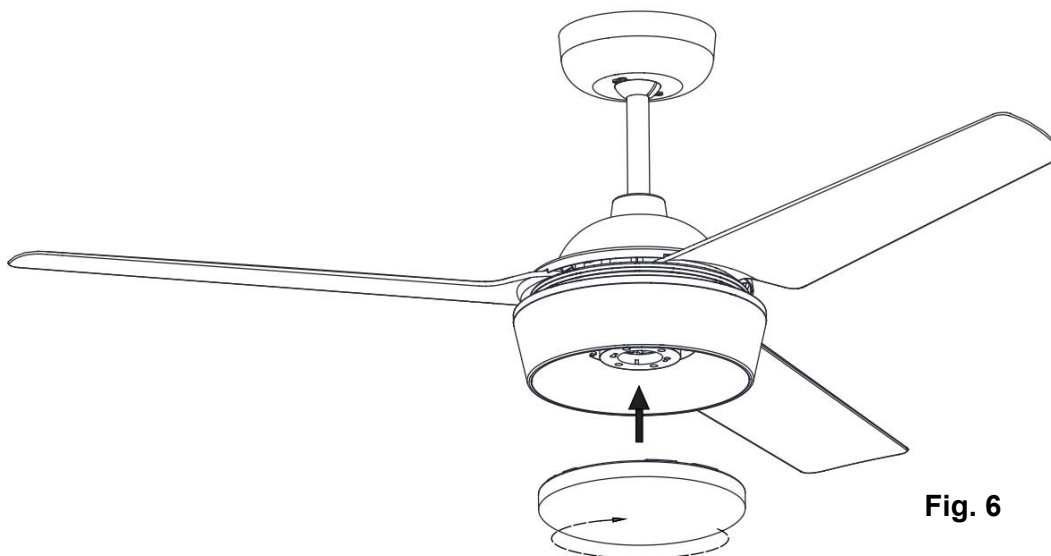

Fig. 6
INSTALLATION OF LAMP (Fig. 6)
- Install the GX53 lamp on the fan assembly, then secure it by turning clockwise. (Fig. 6)